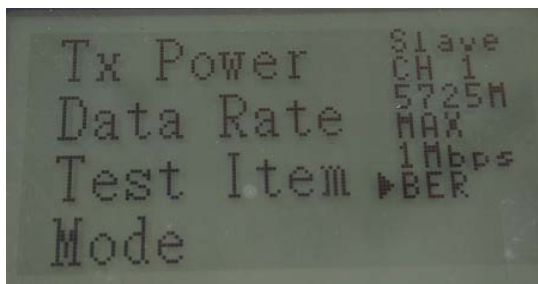
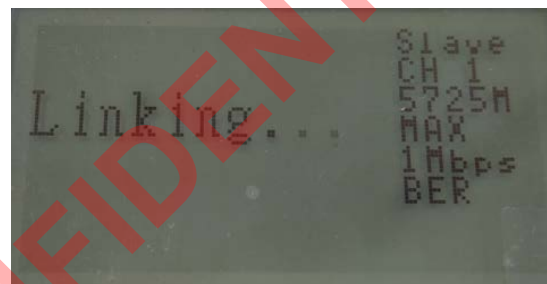

Fig 26
Fig 27
2. Press '↓' or '↑' button to select BER and press enter as shown in Fig 26 and Fig 27.